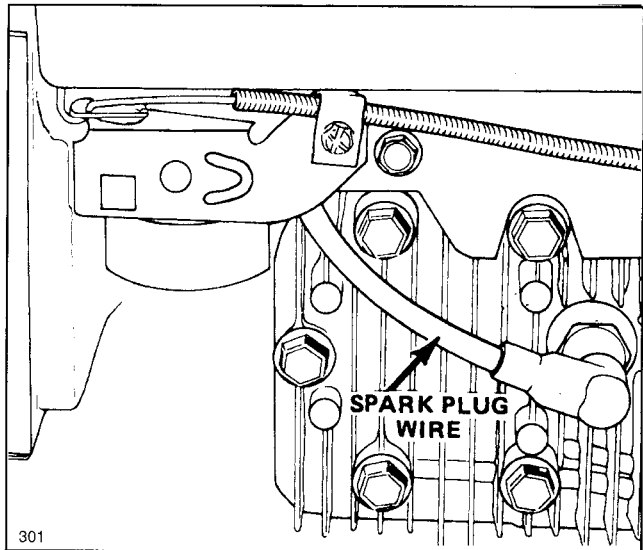

Figure 14
2. Push spark plug wire onto spark plug (Fig. 14).
1. Stop engine and pull wire off spark plug (Fig. 14).
1. Stop engine and wait for engine to cool. Pull wire off spark plug (Fig. 14).